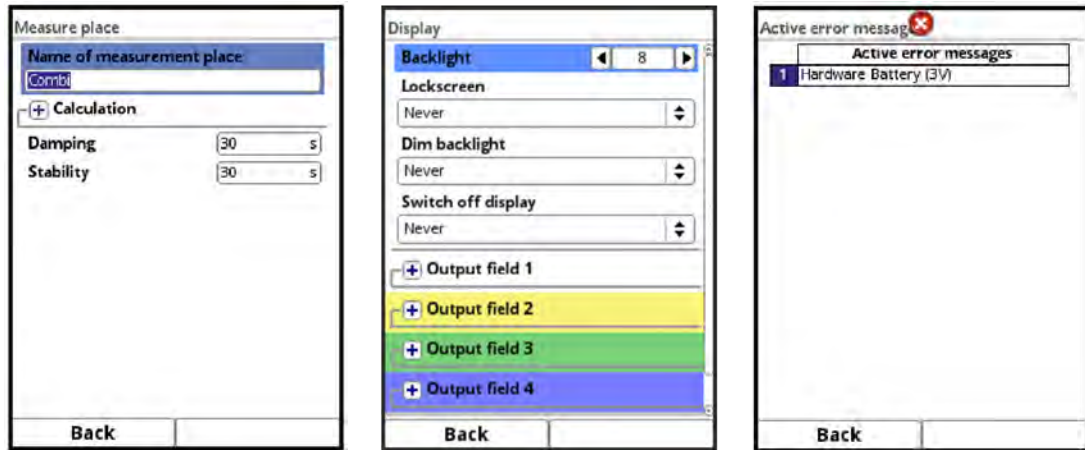

Fig. 30-1 Flow: Pop-Up-Menu and Menu Pages
- Date (alternatively 1, 2, 3 etc.; see Fig. 30-1)
- Time (alternatively 1, 2, 3 etc.; see Fig. 30-1)